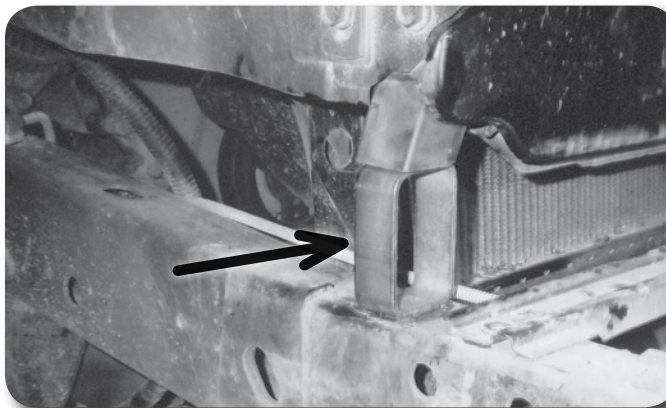

Figure 1
18. Install the two metal body spacers under the rubber pads on both sides of the grill. Weld the supports to the frame **Figure 1**.